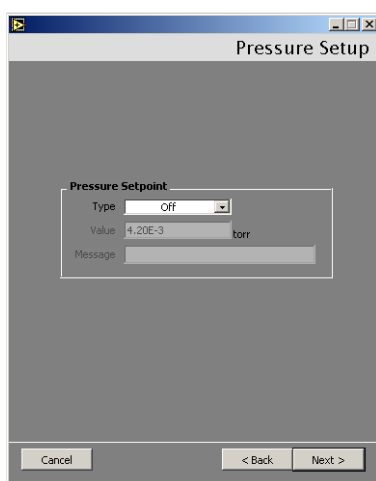

Figure 2-12 Pressure Setup
8. Click **Next** and Figure 2-12 appears.